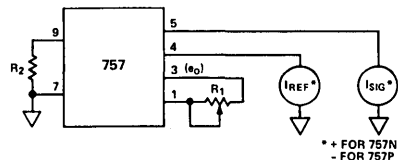

Figure 2. Scale Factor Adjustment
**Scale Factor** — A one volt per decade scale factor is available when pin 1 is tied to 3 and pin 7 is connected to 9. Higher scale factors are possible by using a potentiometer,  $R_1$ , between pins 1 and 3 and a resistor,  $R_2$ , between pins 7 to 9 as shown in Figure 2. The value of the required resistor is  $(13.2k\Omega)$  ( $K-1$ ) where  $K$  is the desired scale factor. The approximate potentiometer value is also  $(13.2k\Omega)$  ( $K-1$ ). The scale factor adjustment procedure is as follows: